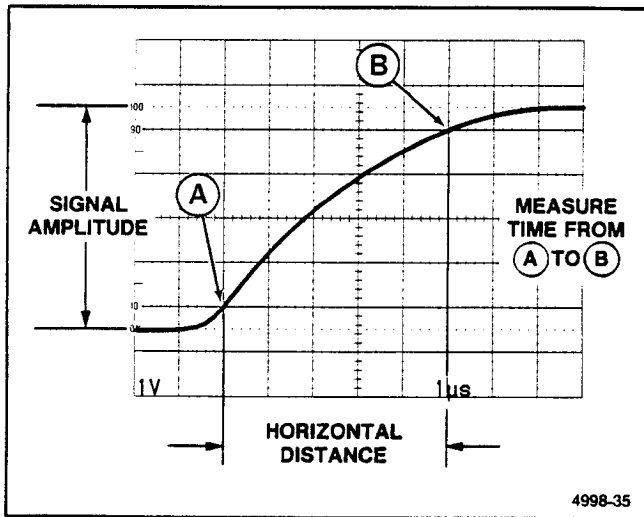

Figure 6-6. Rise time.
Rise-time measurements use the same methods as time duration, except that the measurements are made between the 10% and 90% points on the leading edge of the waveform (see Figure 6-6). Fall time is measured between the 90% and 10% points on the trailing edge of the waveform.
4. Adjust the vertical positioning so that the zero reference of the waveform touches the 0% graticule line and the top of the waveform touches the 100% graticule line (see Figure 6-6).
6. Horizontally position the display so the 10% point on the waveform intersects the second vertical graticule line (see Figure 6-6, Point A).
EXAMPLE: The horizontal distance between the 10% and 90% points is 5 divisions (see Figure 6-6), and the SEC/DIV switch is set to 1 μs. The X10 magnifier knob is pushed in (X1 magnification).